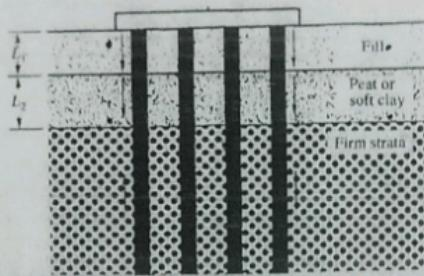

Figure 3.
B. What are the refusal conditions of SPT test? (2)
C. Describe wash boring with neat sketch. (4)
6. A square pile group consisting of 16 piles of 40 cm diameter passes through two layers of compressible soils as shown in Figure 3. The thicknesses of the layers are : $L_1 = 2.5$ m and $L_2 = 3$ m. The piles are spaced at 100 cm center to center. The properties of the fill material are: top fill $c_u = 25$ kN/m²; the bottom fill (peat), $c_u = 30$ kN/m². Assume $\gamma = 14$ kN/m³ for both the fill materials. Compute the negative frictional load on the pile group. (7)